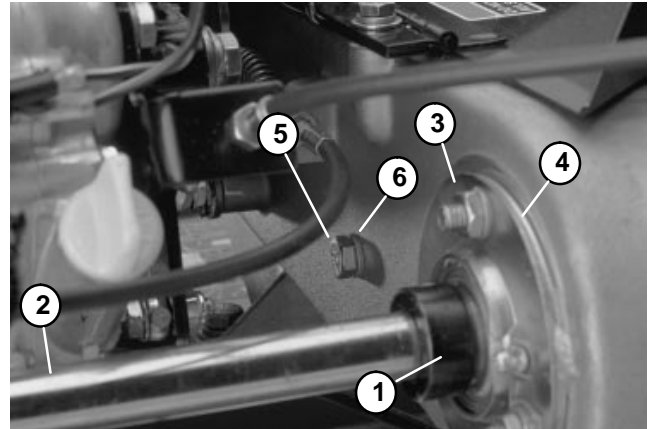
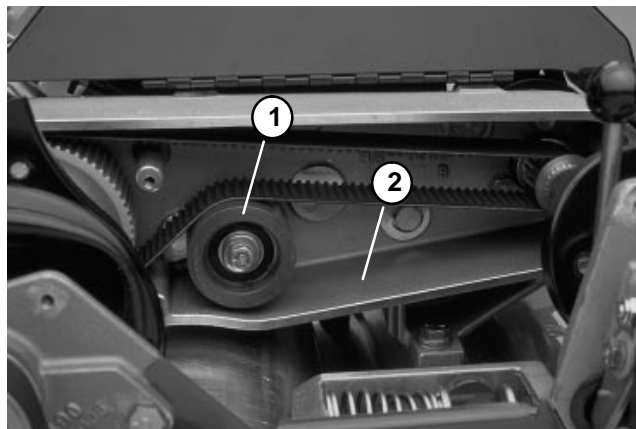

Figure 37
Figure 39
3. Remove cap screw and lock washer that secure the idler pulley (Fig. 37). Remove idler pulley from countershaft housing (Fig. 39).
2. Reinstall idler pulley to the countershaft housing (Fig. 39). Secure idler pulley with cap screw and lock washer. Tighten cap screw until washer just starts to compress. Spacer must be free to rotate (Fig. 37).
4. Loosen cap screw securing the idler to the counter shaft housing (Fig. 37). Pivot idler pulley counterclockwise away from the backside of belt to release belt tension (Fig. 39).